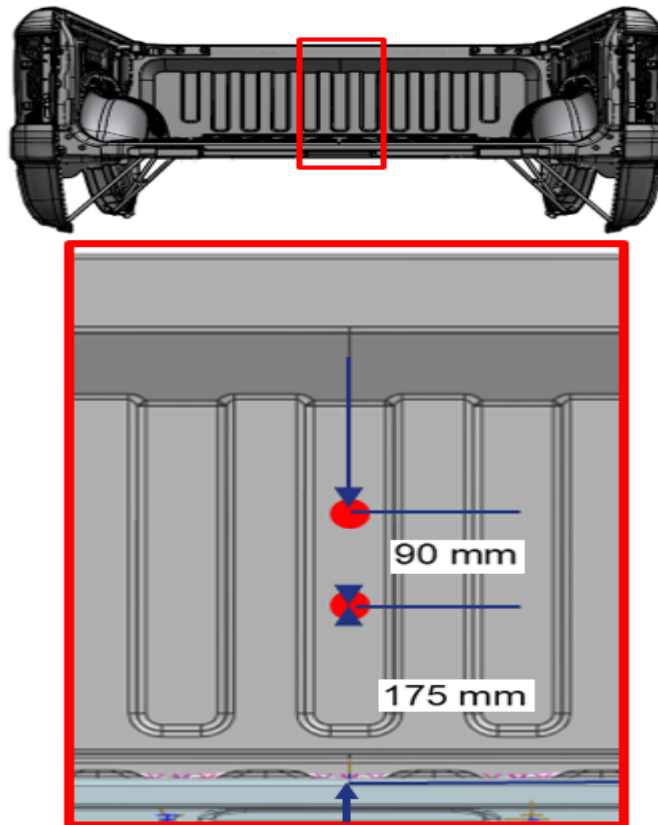

Fig 2.
3. Using a tape measure, locate the front bed bulkhead center inset rib. See Fig 2.